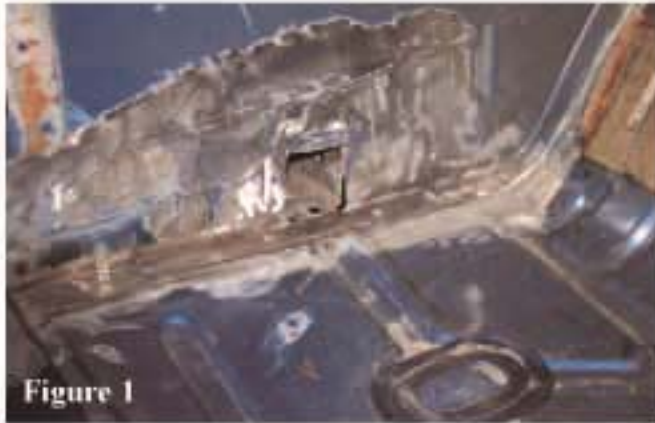

Figure 1
1. Locate and cut hole in rear bulkhead exposing inside of rear subframe. Clean and prep area for welding of both frame rail and bulkhead stiffener Figure 1 & 2.